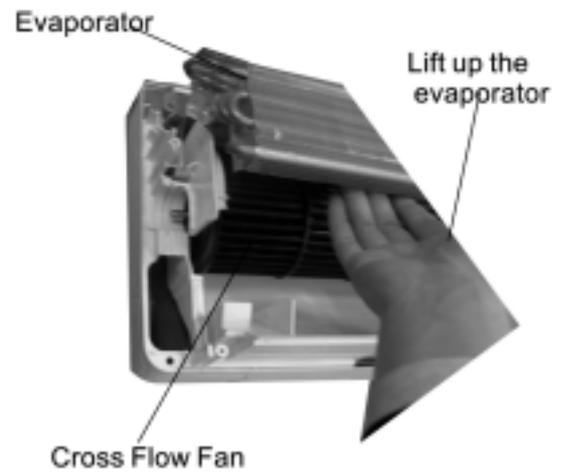

Fig 9
6. Lift up the evaporator and remove the cross flow fan. (Fig 9)